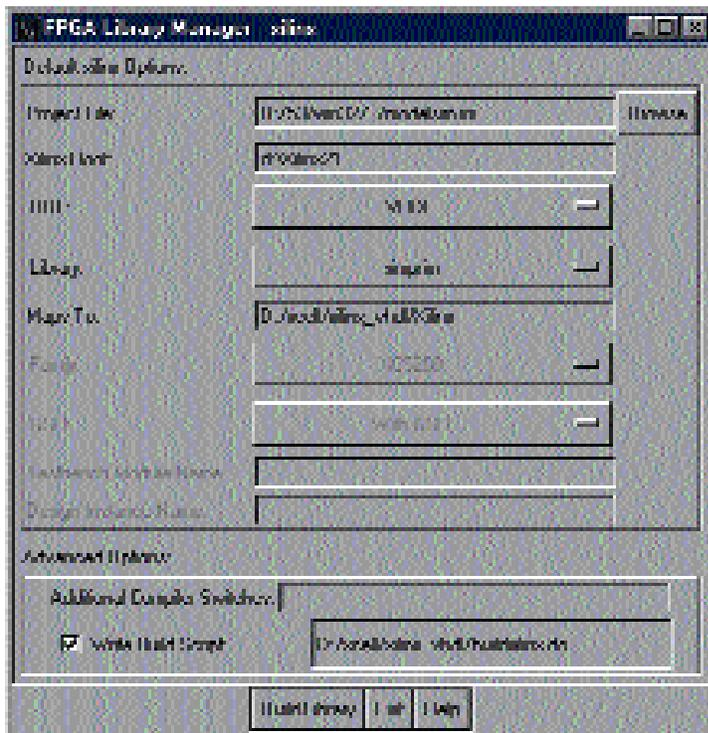

Figure 1: ModelSim Xilinx FPGA library manager window.
- Use the Browser to select the Xilinx TCL script. (ModelSim uses TCL as a scripting language.) The Library manager uses a support file that resided in the ModelSim\_install\_directory/contrib. These scripts will be updated as the Xilinx parts list evolves. See the Additional Information section below for updated script downloads. Use **Browse > Select fpgavendor\_xilinx.tcl > Open > Next** (Please refer to Figure 1 "ModelSim XILINX FPGA Library Manager Window".)